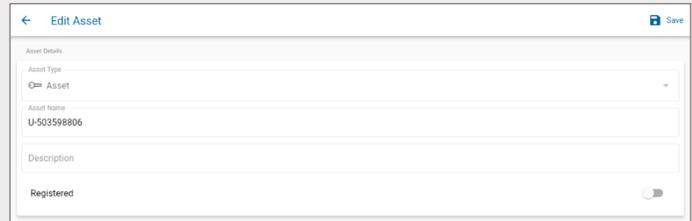

Fig. 62 – Edit Asset screen – Asset Details
- Fill in the **Asset Details**, as shown in Fig. 62: